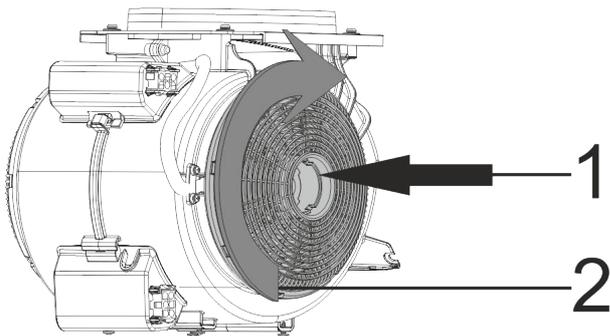

Fig. 6 Carbon Filter
5. One carbon filter at a time, offer the filter up to its housing and rotate the filter clockwise. Ensure that it is snugly fitted. (Fig. 6)